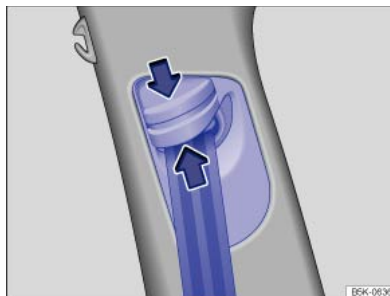

Fig. 42 Next to the front seats: belt height adjuster.
- Push the shoulder belt guide together in the direction of the arrows and hold ⇒ *Fig. 42* .